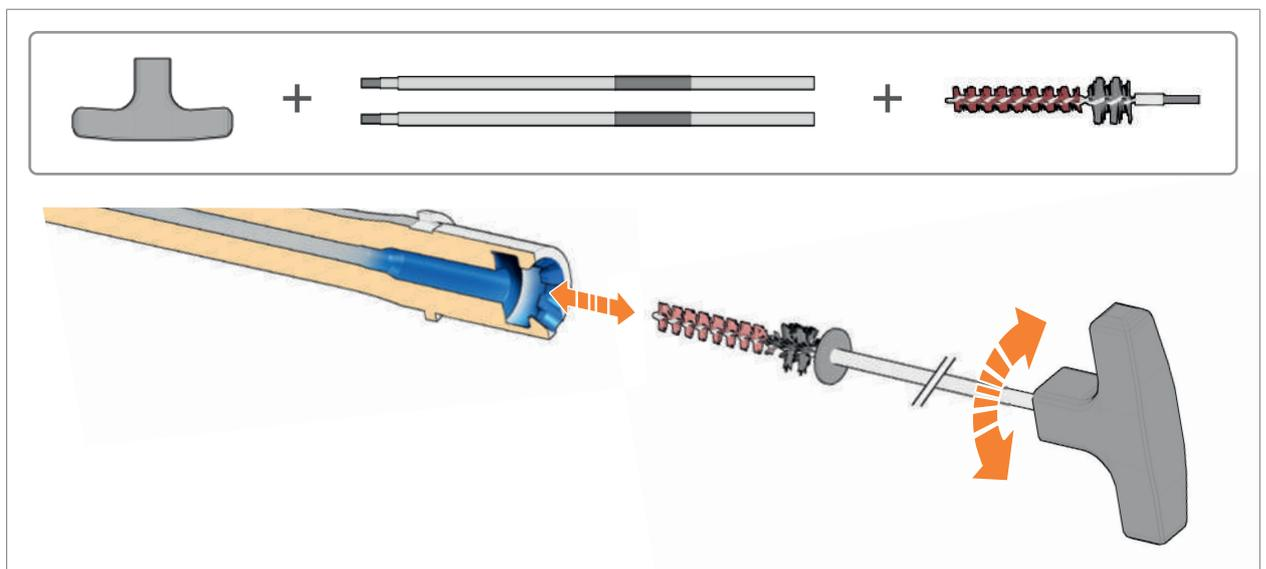

Fig. 105: Using the T-pistol grip
1. Screw the T-pistol grip, 2 extension rods and cleaning brush for chamber and locking together (*Fig. 105*).
2. Clean chamber and locking piece with cleaning brush (*Fig. 105*).